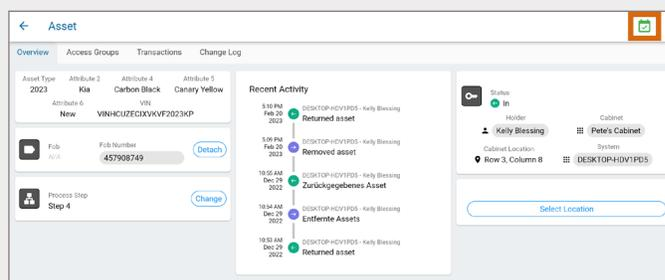

Fig. 149 – Asset details screen – currently reserved asset
- 🔑 During an active reservation window, the Asset details screen displays a green calendar with a check mark in the  upper-right corner of the screen, as shown in Fig. 149.